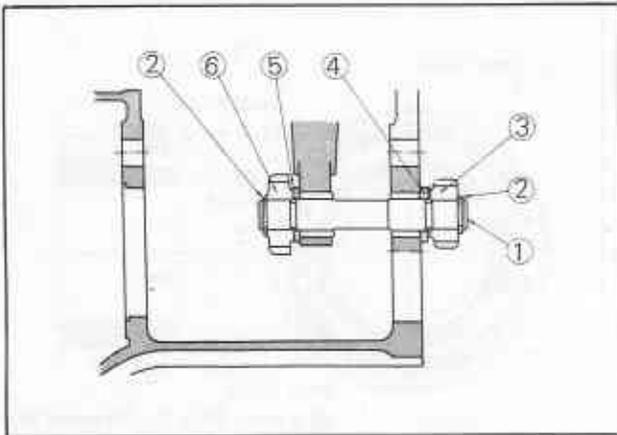

Fig. TM-49 Reverse idler gear
1. Assemble the reverse idler driving gear ③ (14T) on the end of the reverse shaft ① with the longest spline and retain with a suitable snap ring ② (See Fig. TM-49).